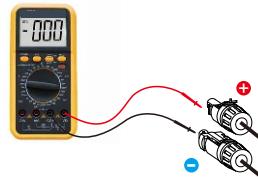
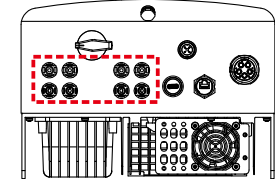

Figure 5.17 Multimeter measurement
Figure 5.18 Connect the DC Connectors to the PV Inverter
5. Measure PV voltage of DC input with multimeter, verify DC input cable polar (see figure 5.17), and ensure each string of PV voltage in range of PV Inverter operation. Connect DC connector with PV Inverter until hearing a slight clicking sound indicates connection succeed. (see figure 5.18)